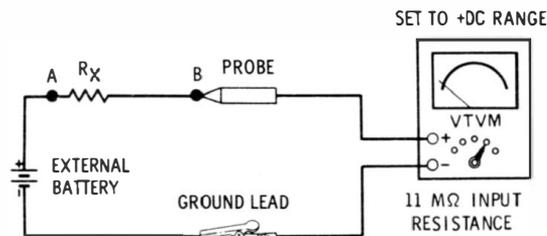

Fig. 7-9. Circuit showing the use of a vtvm to measure resistance beyond 1000 megohms.
On many vtvm's, the highest calibrated number on the ohms scale is 1K. If you are reading ohms and have the range switch on the highest setting (1 megohm), the highest readable resistance is 1000 megohms, which is high enough for most purposes. However, on some rare occasions or for special purposes, it may be necessary to measure a higher resistance. There is a way to do it using an external battery and series resistor, as shown in Fig. 7-9.
1. Set the function selector to +DC volts and measure the voltage at point B (Fig. 7-9).
2. Measure the voltage at point A (Fig. 7-9).
Example: The value of an unknown resistance is to be determined with the circuit of Fig. 7-9. An external voltage of 500 volts is applied. The WV-98C measures 2.5 volts at point B and 500 volts at point A. Then,